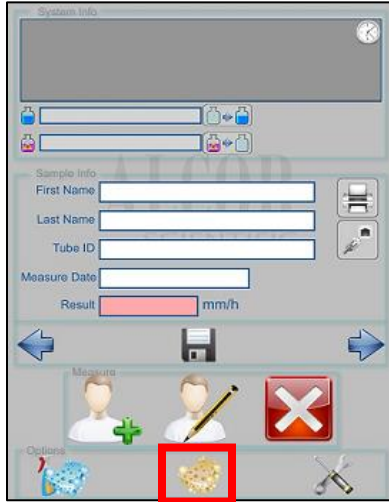

Figure 1
1. Perform three washes by pressing the Washing icon highlighted in red in Figure 1.